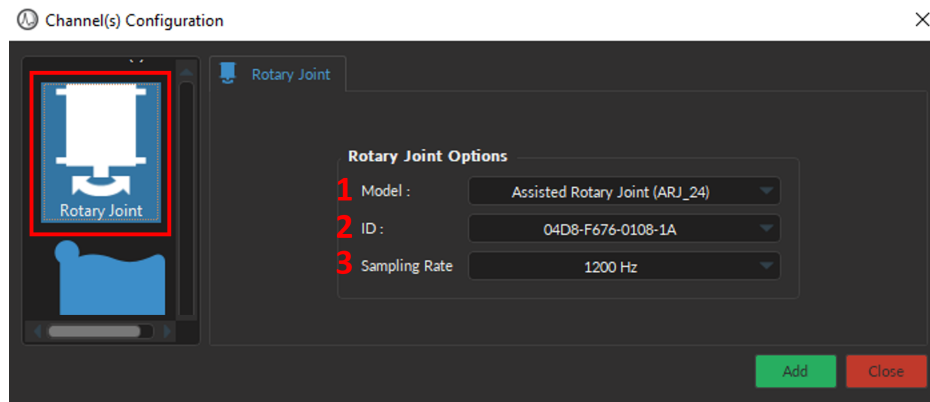

Figure 16.58: Rotary Joint channel
1. The **Model** (Fig. 16.58, 1) displays the type of rotary joint available. Assisted rotary joints (specifically ARJ24), when connected to the computer, will be automatically detected. Compatible devices include:
2. The **ID** (Fig. 16.58, 2) displays the serial number of the rotary joint in question, which identifies the proper device when more than one rotary joint of the same model is connected to the computer.
3. The **Sampling Rate** (Fig. 16.58, 3) specifies the number of data points per second that are saved in the *.doric* file. The **Sampling Rate** can range between 10 Hz - 1200 Hz.